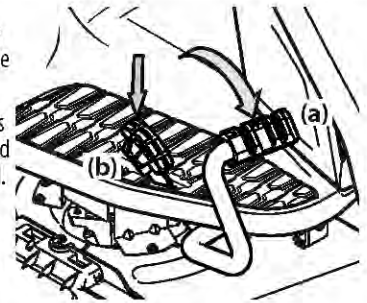

Figure 27
- To travel FORWARD, slowly depress the forward drive pedal (a) forward until the desired speed is achieved. See Figure 27.
- To travel in REVERSE, check that the area behind is clear then slowly depress the reverse drive pedal (b) until the desired speed is achieved. See Figure 27.